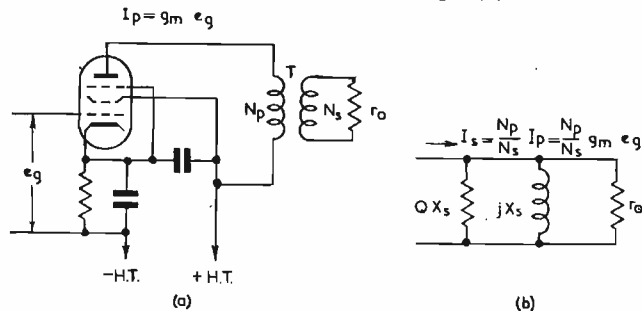

Fig. 2. (a) Pentode working into load r_o . (b) Equivalent circuit
Converting the right-hand side of equation (22) to the "D" matrix from Fig. 2 gives :-
The derivation of the curves has been based on the assumption that a valve of high internal anode impedance can be treated as a source of constant current. A pentode valve working into an output transformer is shown in Fig. 2(a) together with its equivalent circuit in Fig. 2(b).
where Y_{r_o} is the admittance of r_o and Y is the admittance of the three shunt elements of Fig. 2(b).